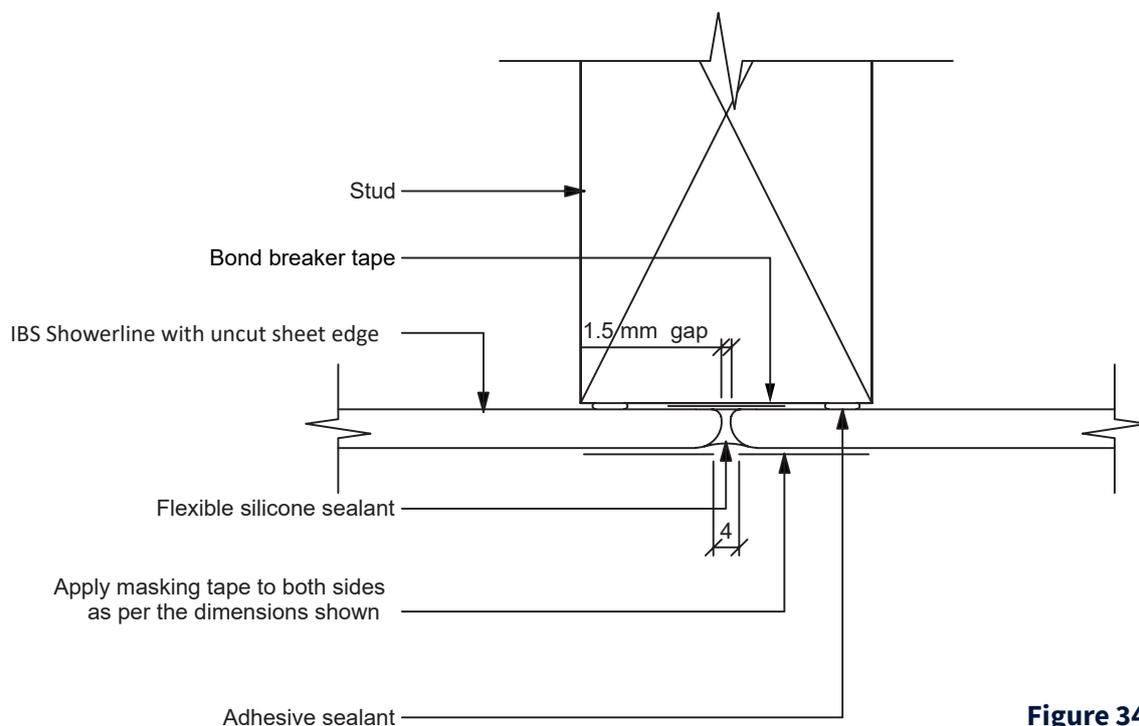

Figure 34
- Apply bond breaker tape to framing behind joints (see Fig. 34).